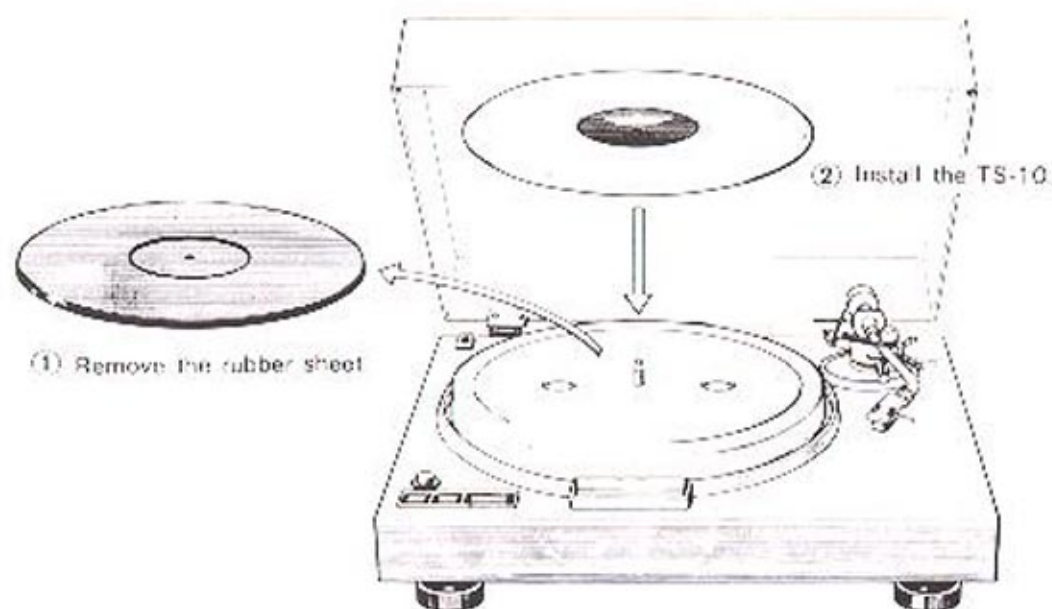

Fig. 1
- Remove the rubber turntable sheet from the KD-750/650/600 etc. Install the TS-10 with the aluminum disk facing upwards (refer to Fig. 1).